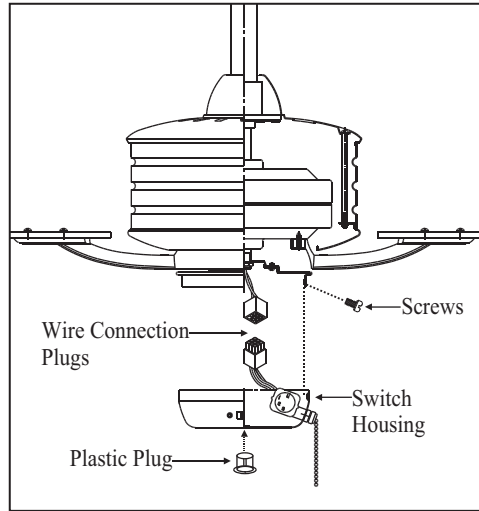

Figure 17
2. Attach the plastic plug to the switch housing. (Fig. 17)
3. Holding the switch housing under your fan, snap together the wire connection plugs. (Fig. 17)
4. Install the switch housing to the mounting plate with screws provided. (Fig. 17)